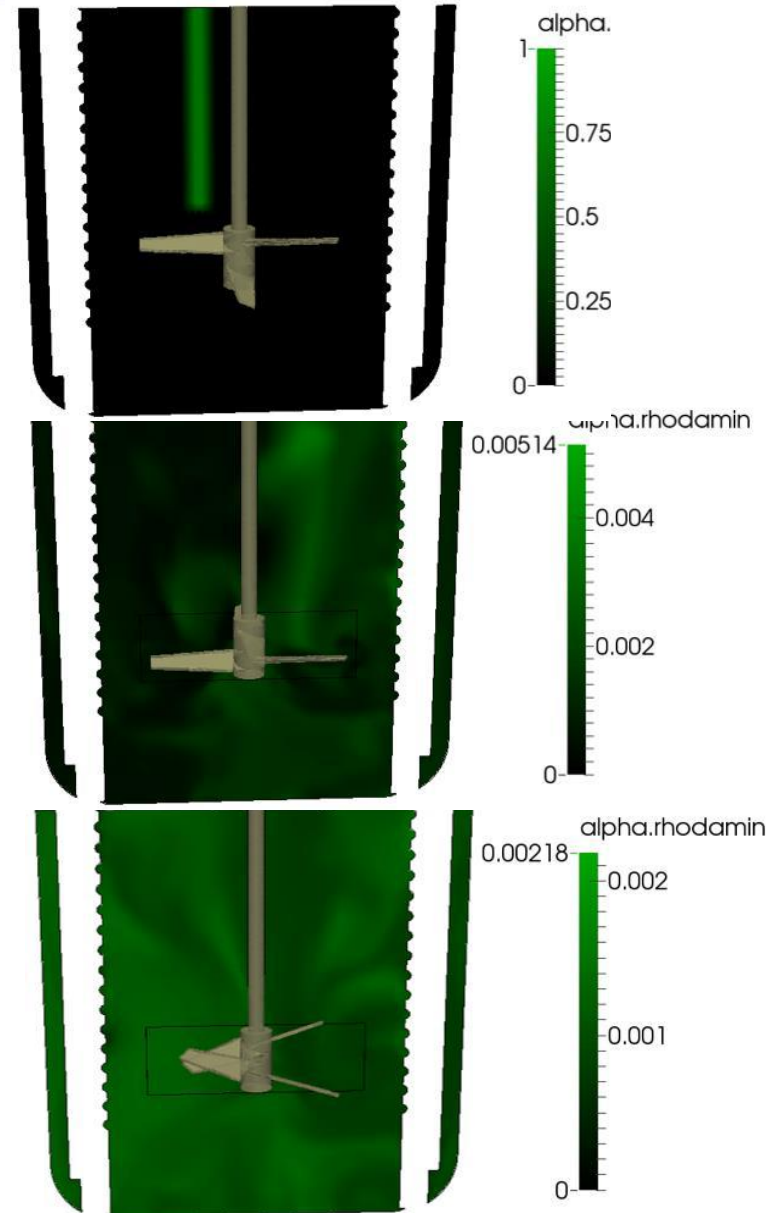

Fig.3: LES of mixing time at $t=0s$, $5s$ and $7.5s$.
- Order 1 convergence concerning mesh refinement (Fig. 3)